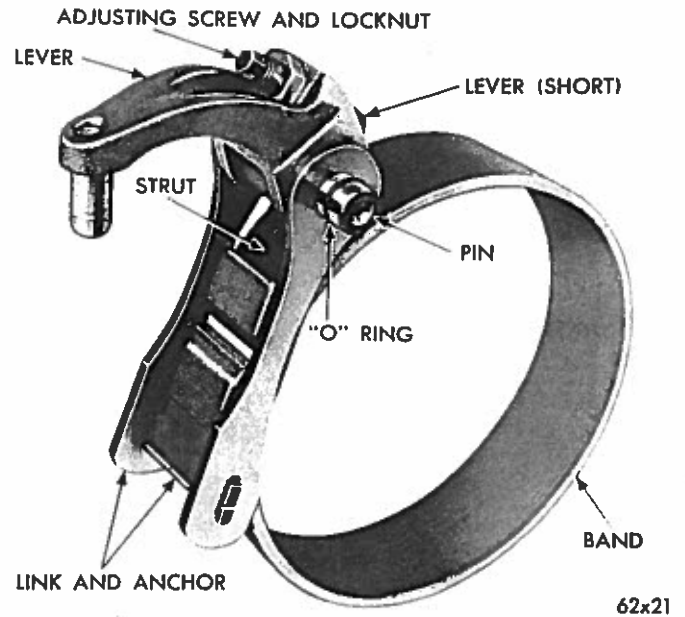

Fig. 73—Low-Reverse Band and Linkage
(2) Compress the low and reverse servo piston spring by using "Engine Valve Spring Compressor Tool C-3422", then install the snap ring.
(3) Position rear band in the case, install the short strut, then connect the long lever and strut to the band (Fig. 73). Screw in band adjuster just enough to hold the struts in place. Be sure the long lever and strut assembly is installed as shown in Figure 72 to provide running clearance for the low and reverse drum. Install the low-reverse drum.